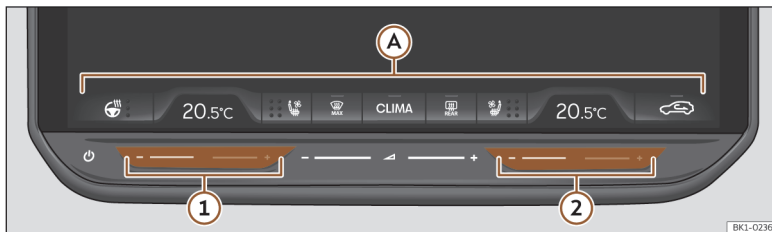

Fig. 116 Schematic representation: air-conditioning functions.
Fixed bar at the bottom of the Infotainment System display >>> **Fig. 116** **A** where the following Air Conditioning functions are located:
OR: use the touch zones **1** and **2** (blue / red) to adjust the temperature of the Air Conditioning >>> **Fig. 116**.
>>> **Fig. 116 (2)** and/or rear zone to set a different temperature.
- Tap on the **Climabar** symbol >>> **Fig. 116**.
- Tap with two fingers at once on touch zones ① (for driver) and ② (for passenger) >>> **Fig. 116**.